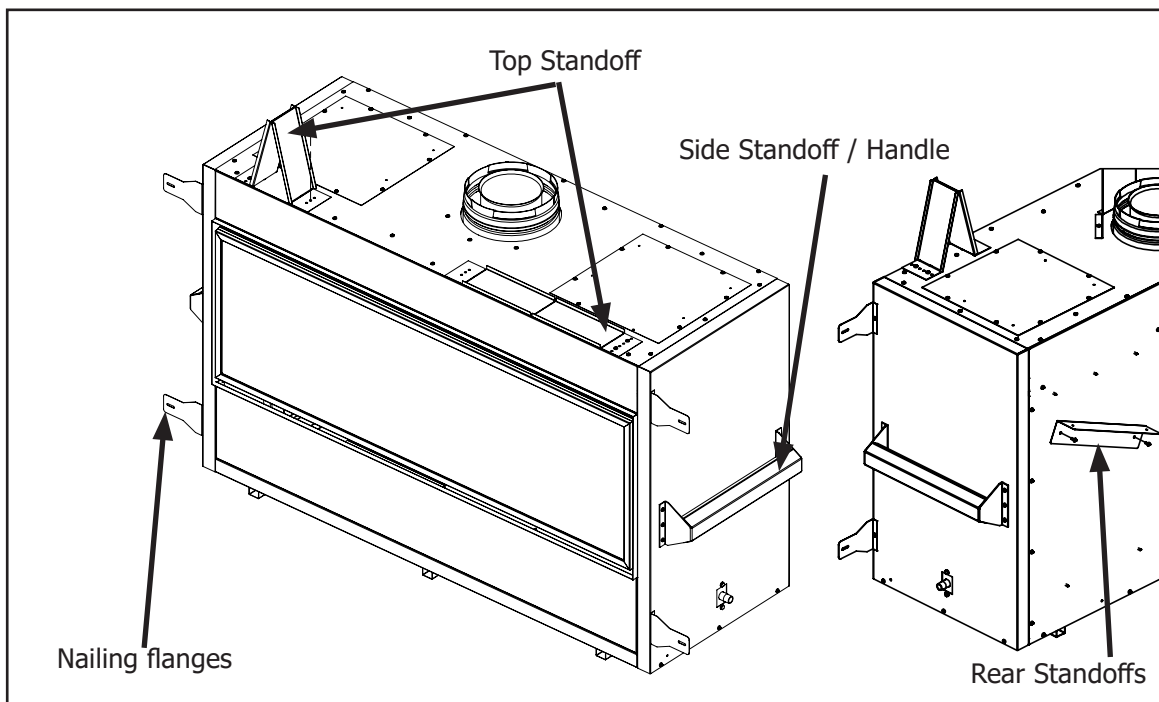

Figure 18: Fireplace Install Prep
Take a minute to familiarize yourself with Figure 18 below.
- The top framing standoffs will need to be folded up and secured on one side with a T-20 screw, This can be seen in Figure 18.